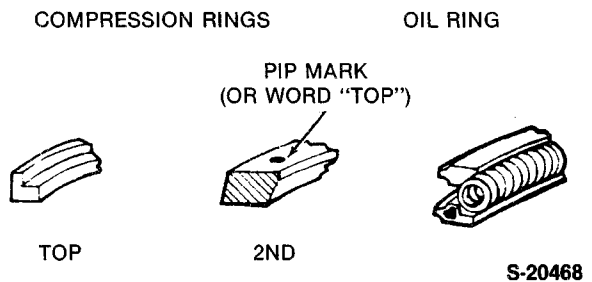

Figure 40
1. Use an expander to install the piston rings, starting with the oil control ring in the bottom groove and working upwards. Refer to Figure 40 for identification of the rings.